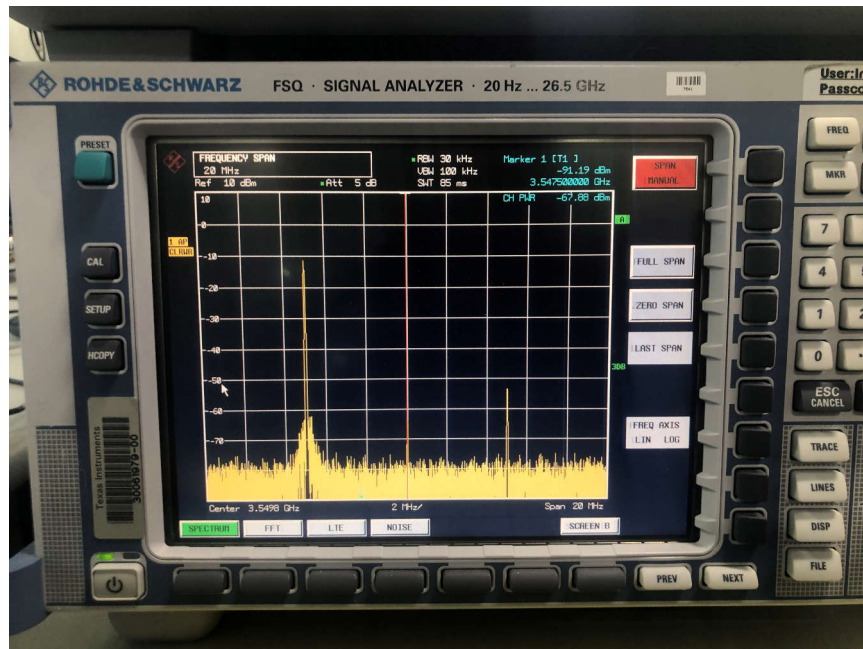

Figure 2-11. Spectrum Analyzer Results - 5MHz NCO
- Figure 2-11 represents the expected result for this test case.